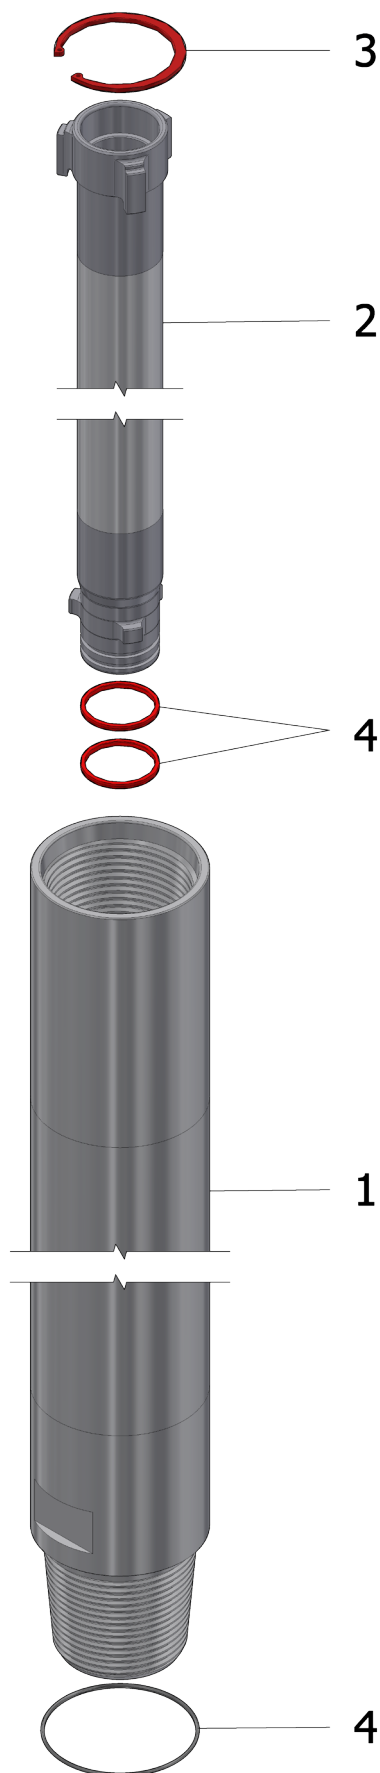

FIG. 3.20
**D.140 C2 ROD: J-14C21000 (L=1000); J-14C22000 (L=2000); J-14C23000 (L=3000) (REF. FIG. 3.20)**